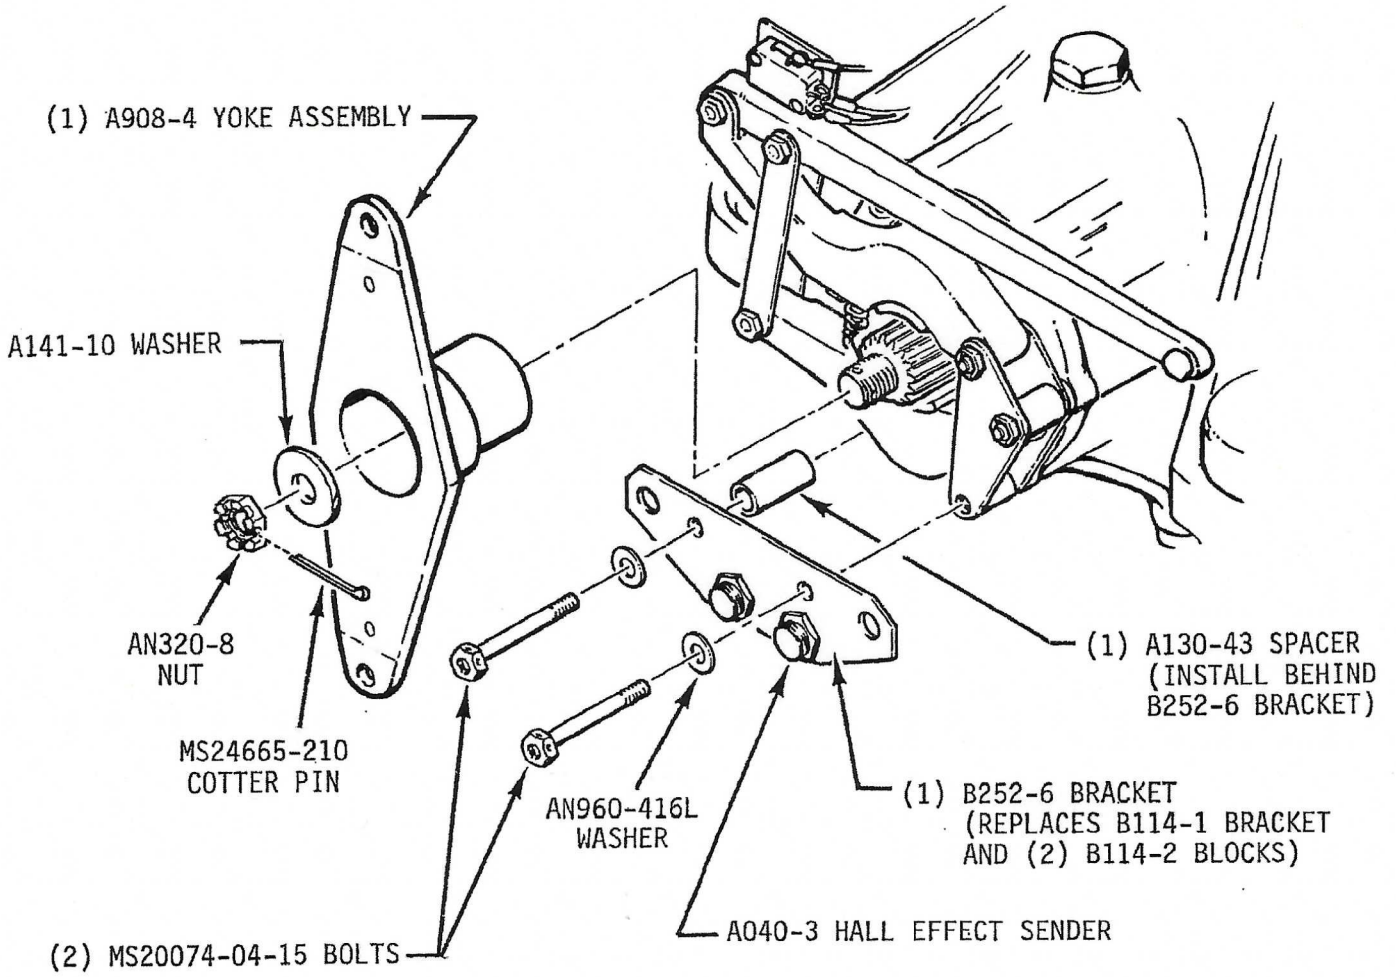

FIGURE 1
1. Remove A006-5 yoke per R22 Maintenance Manual (MM) § 7.140.
2. Remove both A040-3 hall effect senders from B114-1 bracket and (2) B114-2 blocks. Remove bracket and blocks and discard.
3. Refer to Figure 1. Install B252-6 bracket and hall effect senders. Torque (2) MS20074-04-15 bolts to 60 in-lb.
4. Safety wire (2) MS20074-04-15 bolts and check electrical connections for installation and security. Safety wire is easier with yoke removed.